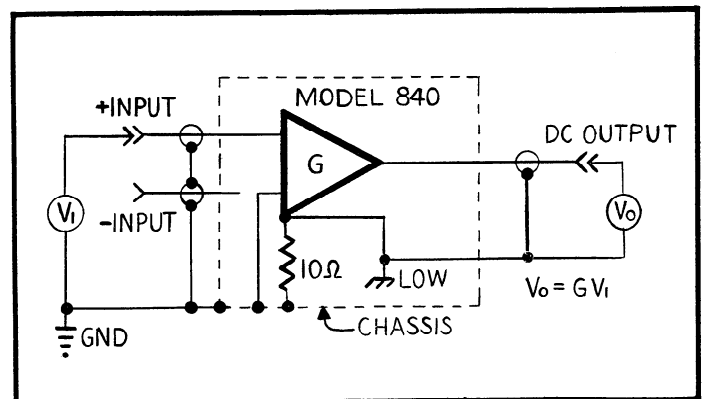

FIGURE 14. Single-Ended Mode.
1. "+" Mode. In this mode the signal at the "+ INPUT" is amplified (non-inverted) as shown in Figure 14. The signal at the "- INPUT" is not amplified.